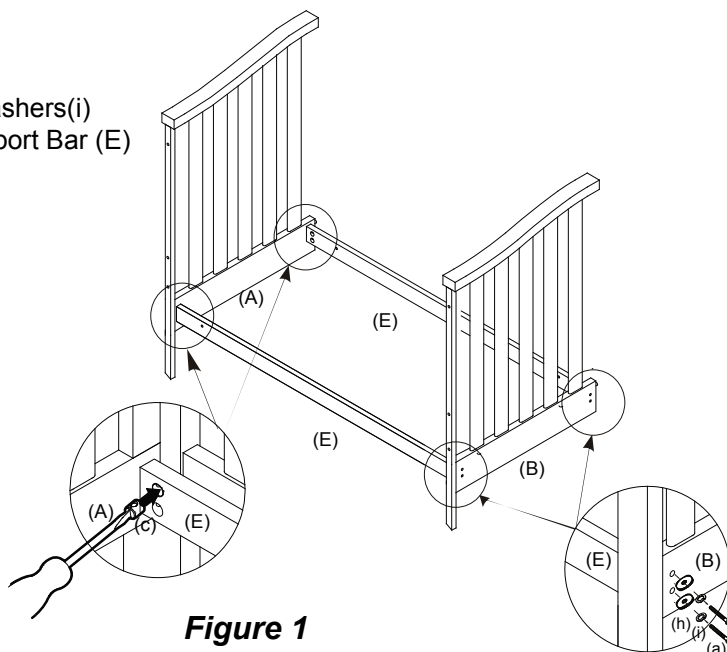

Figure 1
Use 8 pcs Bolt (a) with 8 pcs Washers(h)&Lock Washers(i) and 8pcs Barrel Nuts (c) attach 2pcs Mattress Support Bar (E) to Side Panel (A&B).As shown in Figure 1.